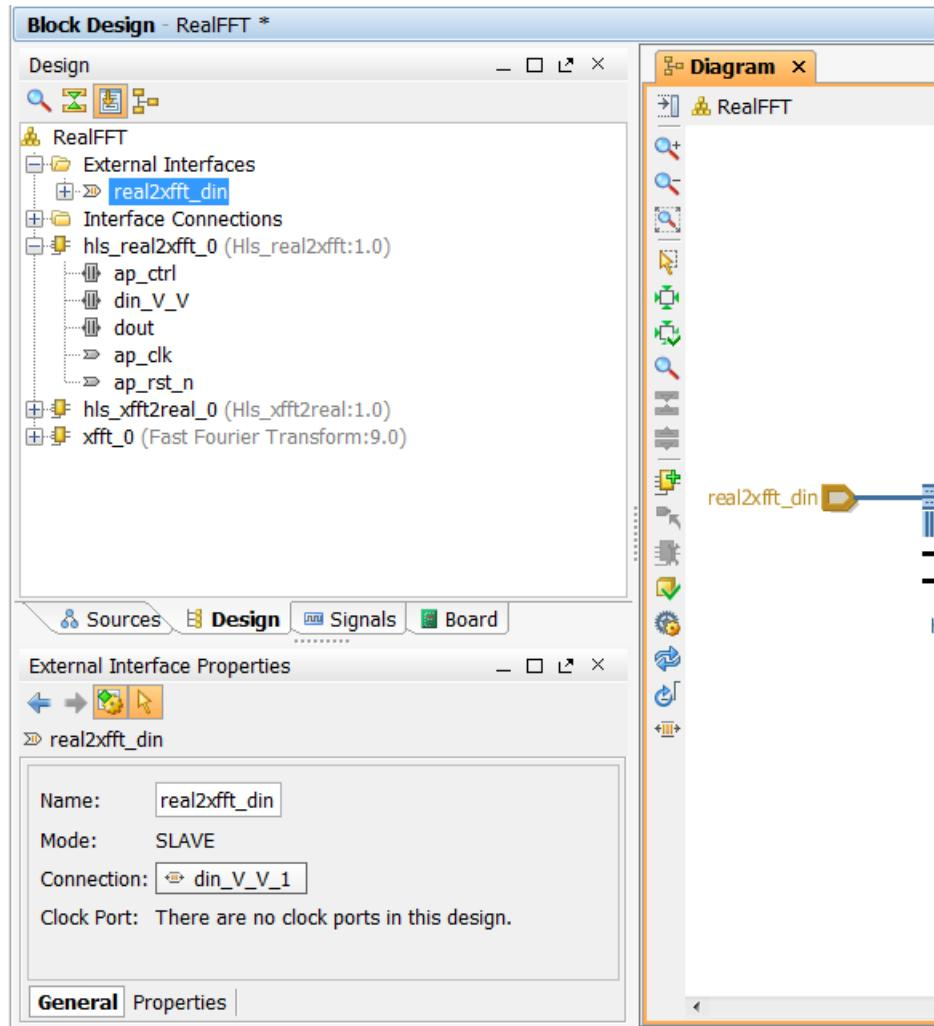

Figure 9-20: Port Naming
- In the External Interface Properties pane (Figure 9-20), click in the Name text entry box to highlight **din_V_V**.